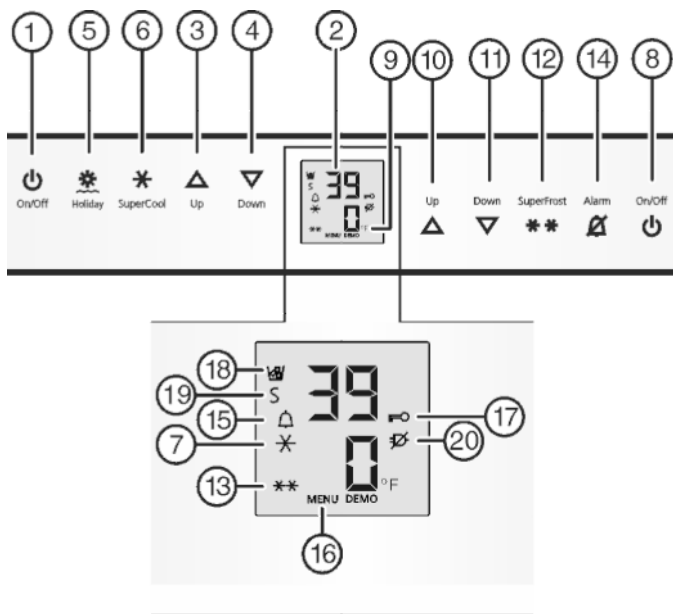

Fig. 3
- Press On/Off button, freezer compartment Fig. 3 (8).
- Press Fridge compartment On/Off button Fig. 3 (1).
- ▷ Fridge and BioFresh compartment are on: Fridge temperature display Fig. 3 (2) is on. When the refrigerator compartment door opens the interior light comes on.
- Activate setting mode: Press SuperFrost button Fig. 3 (12) for about 5 seconds.
- ▷ The Menu symbol *Fig. 3 (16)* lights up.
- ▶ Using Freezer compartment Up button *Fig. 3 (10)*/ Freezer compartment Down button *Fig. 3 (11)* select °.
- ▶ To confirm: Briefly press SuperFrost button *Fig. 3 (12)*.
- ▶ Using Freezer compartment Up button *Fig. 3 (10)*/ Freezer compartment Down button *Fig. 3 (11)* select °F or °C.
- ▶ To exit setting mode: Press Freezer compartment On/Off button *Fig. 3 (8)*.
- ▶ Using the Freezer compartment Up button *Fig. 3 (10)* or Freezer compartment Down button *Fig. 3 (11)*, select **c**.
- ▶ Press the SuperFrost button *Fig. 3 (12)* briefly to confirm.
- ▶ To switch on the child-proof lock, press the SuperFrost button *Fig. 3 (12)* briefly.
- ▷ The Child safety symbol *Fig. 3 (17)* lights up. **c** flashes on the display.
- ▶ To switch off the child-proof lock, press the SuperFrost button *Fig. 3 (12)* briefly.
- ▷ The Child safety symbol *Fig. 3 (17)* goes out. **c** flashes on the display.
- ▶ Deactivate setting mode: press the Freezer compartment On/Off button *Fig. 3 (8)*.
- ▶ Press Alarm button *Fig. 3 (14)*.
At the same time, the Alarm symbol *Fig. 3 (15)* will flash.
The audible warning automatically ceases, the Alarm symbol *Fig. 3 (15)* goes out, and the temperature display stops flashing when the temperature is cold enough again.